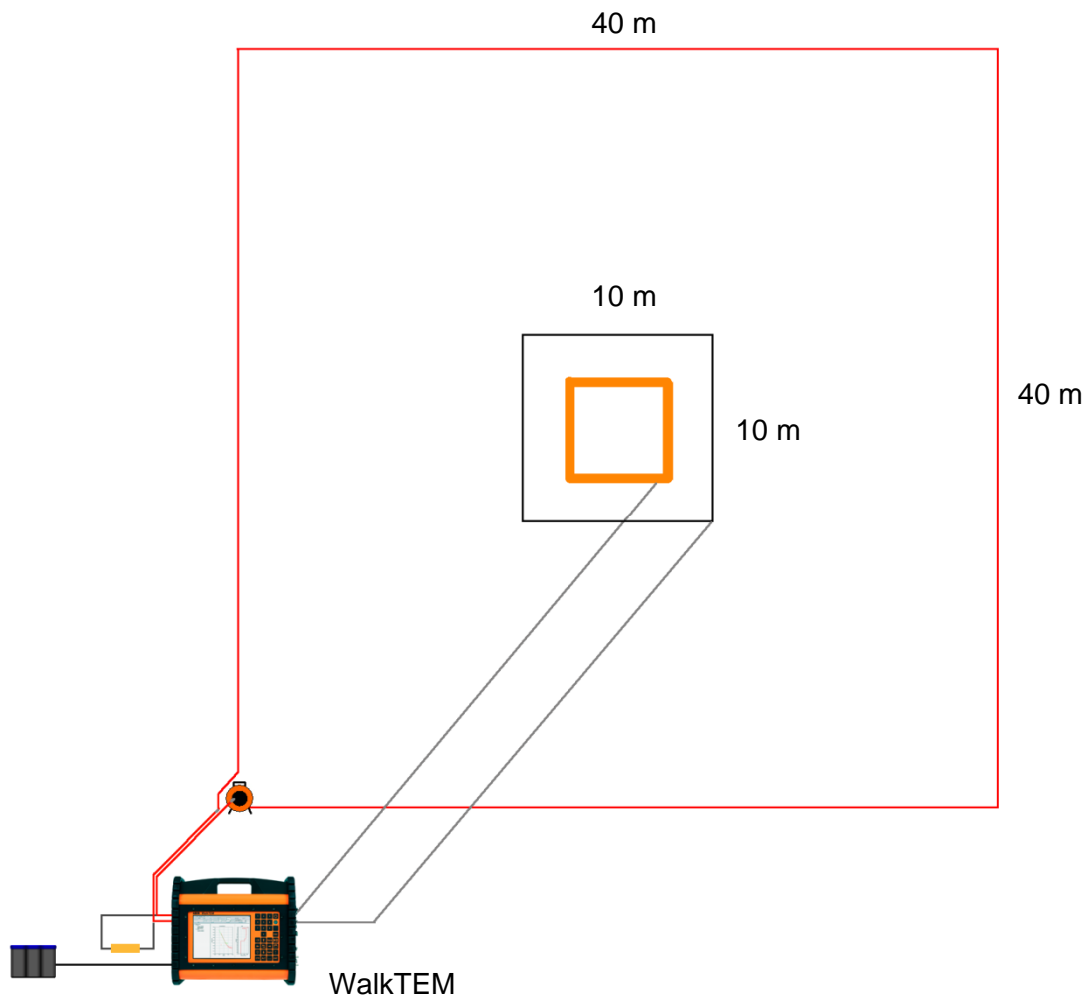

Figure 7. The WalkTEM field layout.
- 9) The WalkTEM layout is now complete, and should resemble that shown in Figure 7.